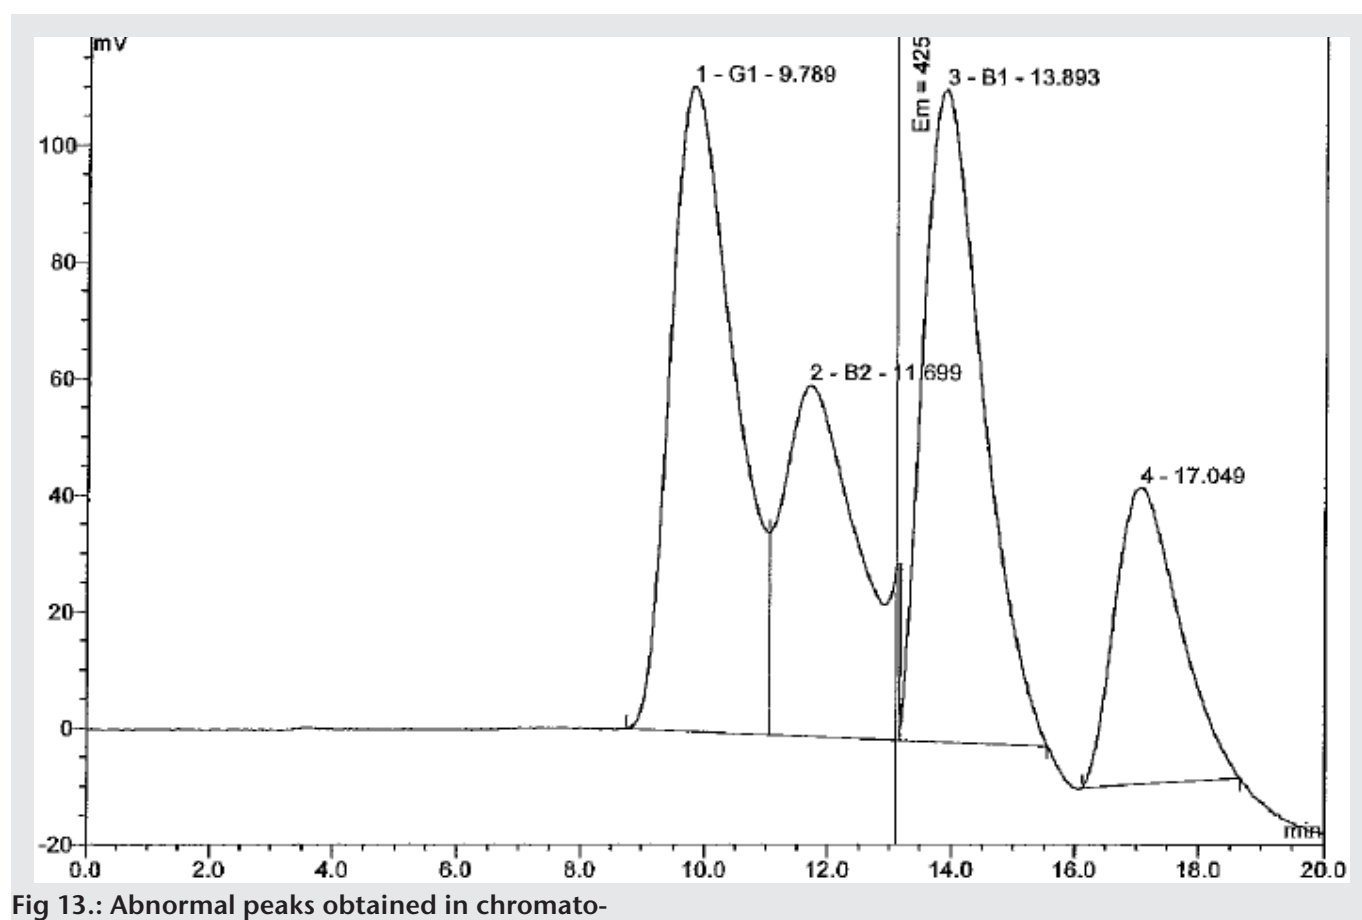

Fig 13.: Abnormal peaks obtained in chromato-
- If abnormal peaks are observed on the HPLC chromatogram it is not normally the KOBRA® CELL that is at fault (Fig. 13).